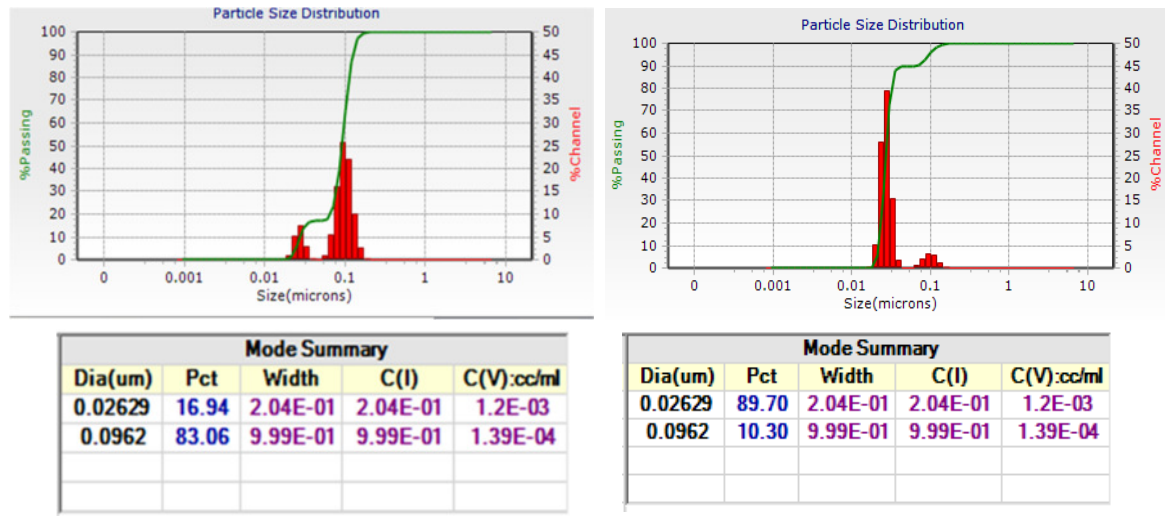

Fig. 9: Peak analysis with the position of peaks and concentration of each fraction
3. Concentration and size in one – see Fig. 9